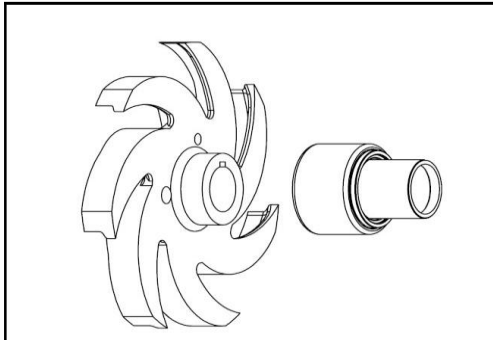

Figure 16
7. Insert the impeller hub into the seal driver, see Figure 16. The impeller will be gripped by the impeller side seal o-ring. For pumps with lip seals the shaft sleeve will already be on the motor shaft.